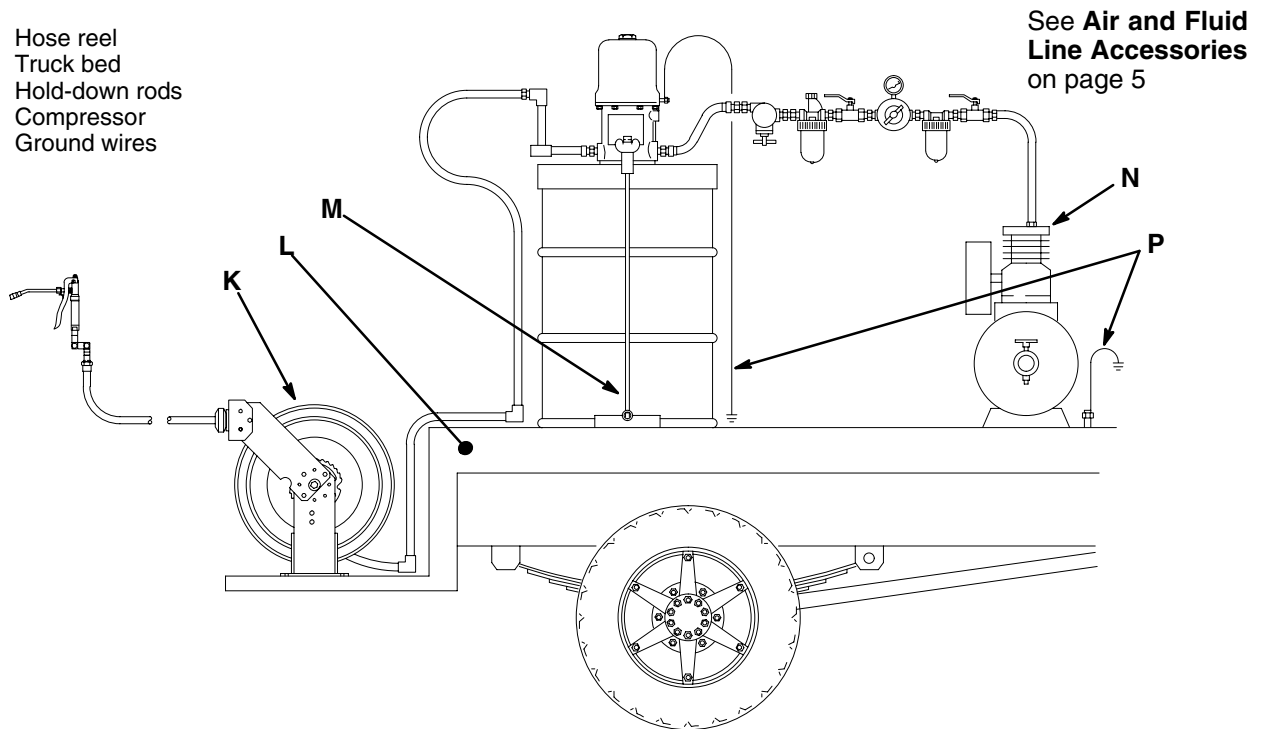

Fig. 4
**NOTE:** See Fig. 4 on page 7 for the mobile mounting installation.
The typical installation shown in Fig. 4 is only an installation guide; it is not an actual system design. Contact your Graco distributor for assistance in designing a system to suit your needs.